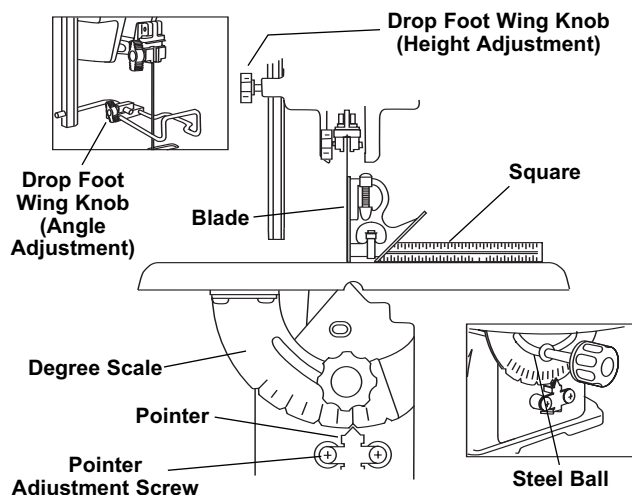

Figure 14. Aligning the Degree Scale Pointer
2. Remove the blade, remove the drop foot assembly, then reinstall the blade (see *REMOVING AND INSTALLING BLADES*, page 14 or 15). Place a small square on the table next to the blade as shown in (Figure 14) to check if the table is 90° to the blade. If no adjustment is required, re-install the drop foot assembly.